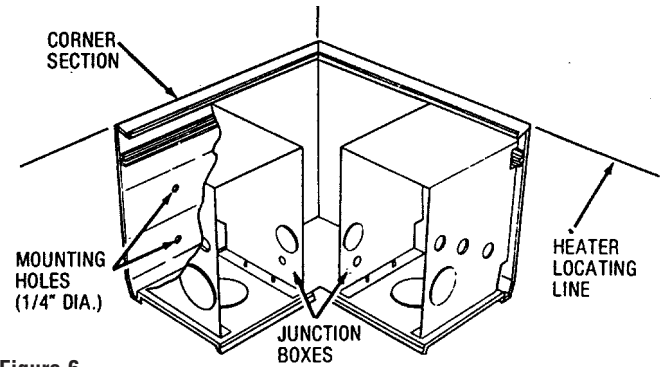

Figure 6
- Drill mounting holes (recommended dia. 1/4") through the back housing of the section. We recommend locating these holes inside the junction boxes (Figure 6).